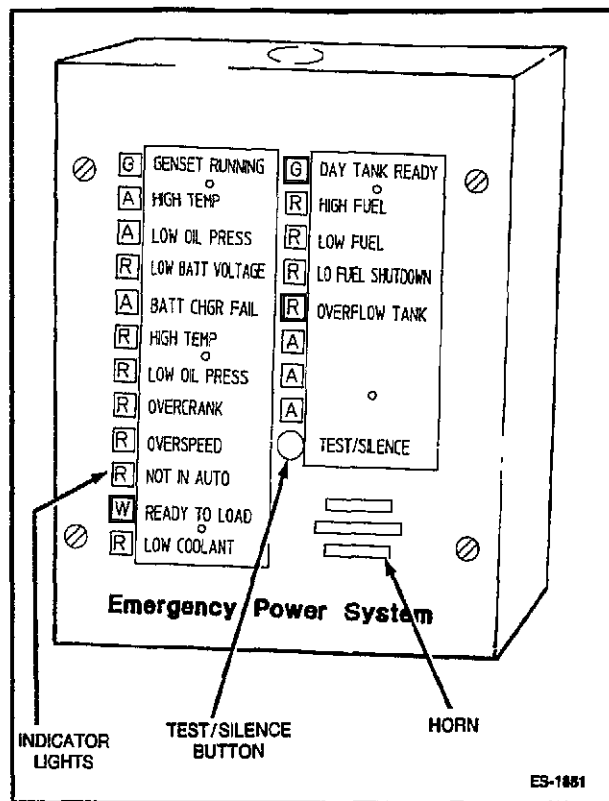

FIGURE 1. TYPICAL ANNUNCIATOR
The Series EPS-ANN remote annunciators provide 20 lights and a horn to annunciate the operating status and fault conditions of an emergency power system (Figure 1).
- The customer can specify the indicator light label marking (Figure 1 is typical).